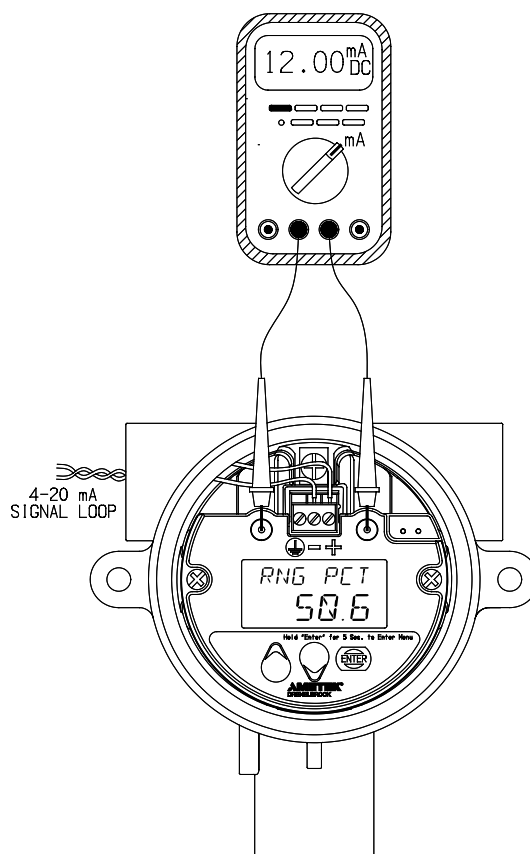

Figure 7-2
3. *Ref Figure 7-2 on page 45.* Remove probe and shield wires. Measure from Probe center wire (Blue) to GRD terminal, Probe center wire (blue) to Shield wire (Red) and Shield wire (Red) to GRD terminal. All reading should be open.